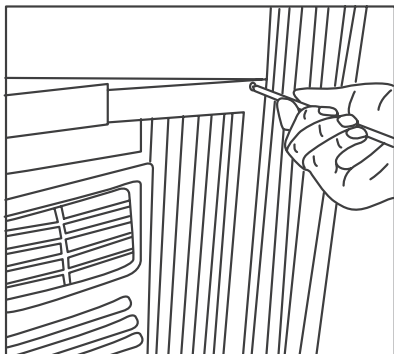
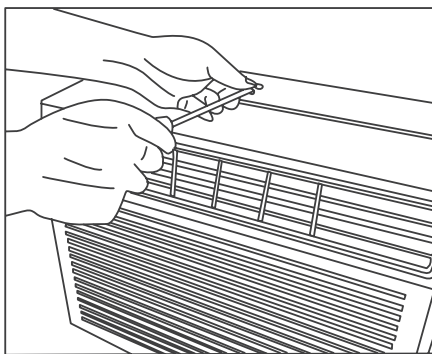

Fig.9
Fig.10
- 5.** Drive 1/2" (12.7mm) locking screws through frame holes into window sash (Fig.9 Fig.10).